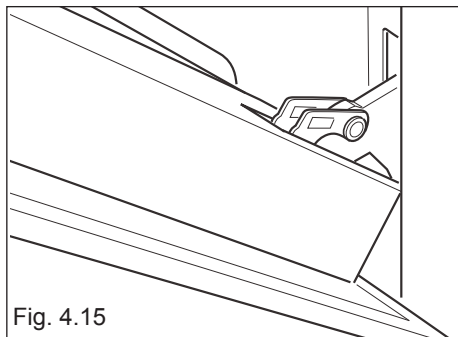

Fig. 4.15
1. Make sure the door is locked open (see fig. 4.15).